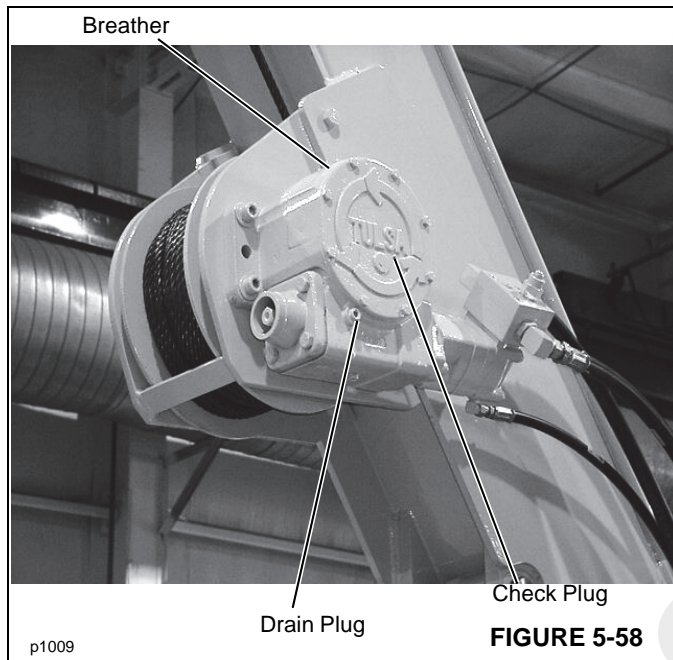

FIGURE 5-58
1. Raise the boom until the drain plug on the gearbox is directly underneath the gearbox (Figure 5-58), engage the parking brake and shut off the engine.